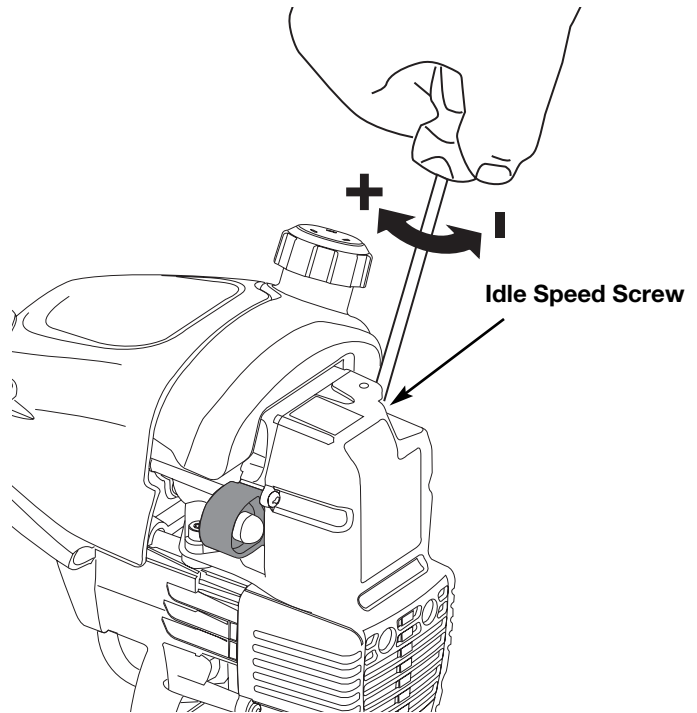

Fig. 32
The idle speed of the engine is adjustable through the air filter/muffler cover (Fig. 32).
2. Release the throttle trigger and let the engine idle. If the engine stops, insert a small phillips screwdriver into the hole in the air filter/muffler cover (Fig. 32). Turn the idle speed screw in, **clockwise**, 1/8 of a turn at a time (as needed) until the engine idles smoothly.